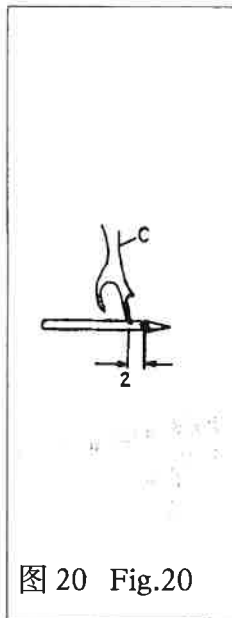

图 20 Fig.20
钩线叉的左右位置,当钩线叉的长叉尖与机针中心线相交时,长叉尖中心到机针穿线孔左边的距离为 2 毫米左右(图 20)。
When the pronged thread hook intersects the central line of the needle, the center of pronged thread hook is deviated from the left side of the needle eye in 2mm distance (Fig.20)
(3)钩线叉高低位置 钩线叉的高低位置以钩线叉叉尖与机针相交(图 20)时, 间隙很小但又不相撞为佳, 一般要求间隙不大于 0.05 毫米。
Make the prong of thread hook intersect the needle (Fig.20) on condition that prong shall not come into contact with the needle. The interval between the prong and the needle shall be less than 0.05mm